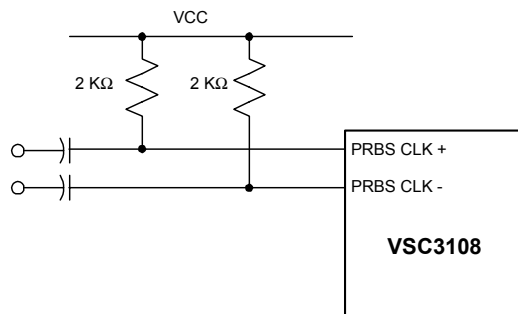

Figure 6. AC-Coupling for the PRBS Clock Input
The PRBS Clock Input must have a common-mode bias of no less than 2.2 V in order to maintain specified sensitivity. Direct coupling a high-speed switch output to the PRBS Clock Input will meet this requirement, as will any CML driver with less than 600 mV peak-to-peak swing. In cases where the common-mode bias cannot be controlled, AC-coupling is recommended, using the diagram shown in Figure 6.
1. See Figure 6 on page 20 for special bias requirements.